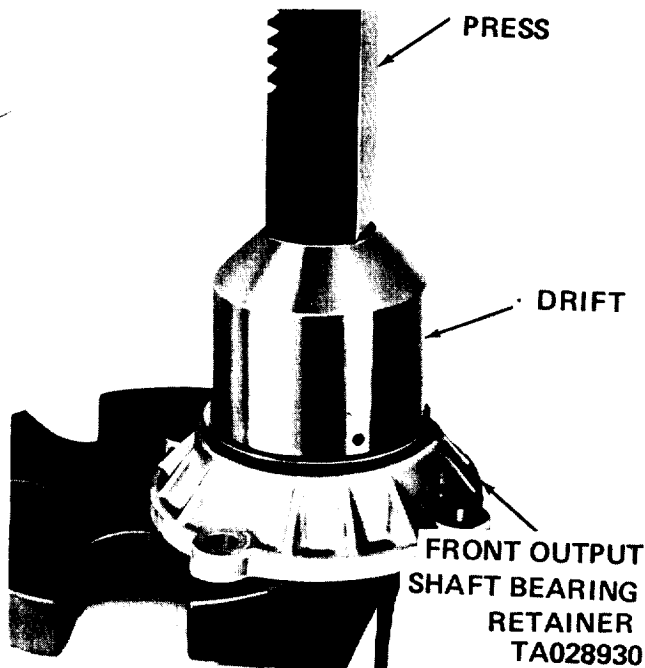

Figure 5-5. Pressing In the Front Output Shaft Seal.
(1) Remove the front output shaft yoke locknut, washer, and rubber seal. Tap or pry the yoke off the output shaft.
(2) Remove the seal.
(3) Clean and inspect the retainer: replace if defective.
(5) Position the seal on the retainer bore. Using a hammer and drift, install the seal in the retainer (figure 5-5).